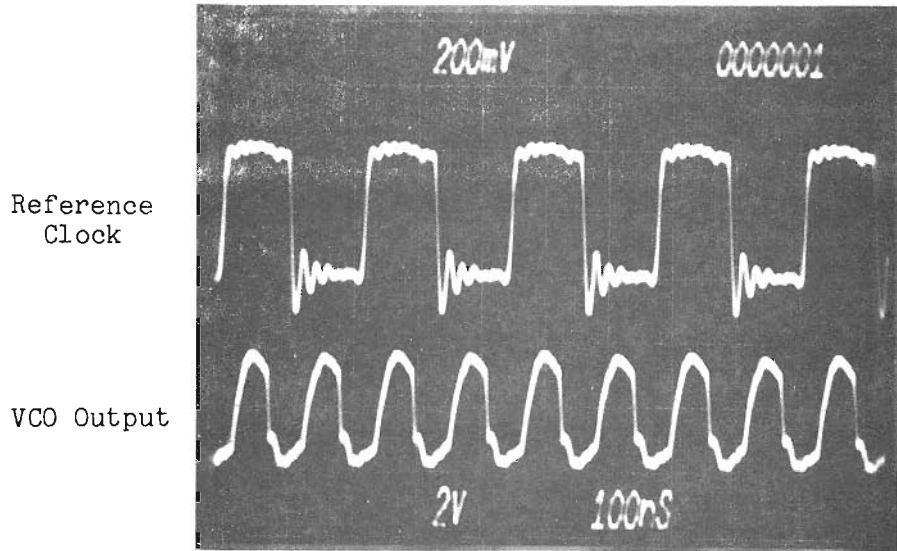
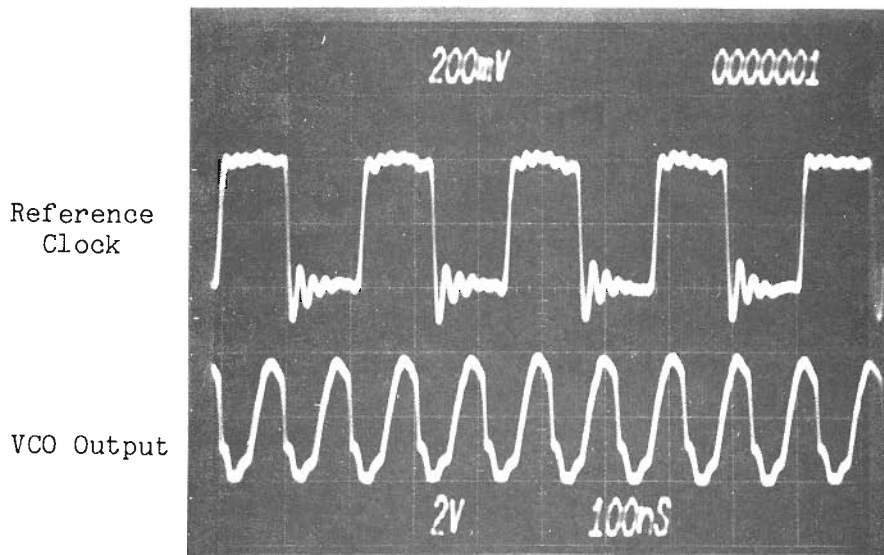

FIGURE 2 PLL CORRECTLY ADJUSTED FOR WINCHESTER DISK DRIVE
FIGURE 3 PLL INCORRECTLY ADJUSTED FOR WINCHESTER DISK DRIVE
10. Turn potentiometer R7 (Winchester drive adjustment) completely counterclockwise, and then slowly adjust R7 clockwise until the VCO output signal (Channel 2) is stable--not free running. Continue adjusting R7 until all the VCO output pulses are centered with respect to the phase detector reference clock pulses (ref: FIGURE 2). When this condition occurs, the PLL is said to be "locked". When the output pulses are centered, the signal will have a period of approximately 0.115 usec (ref: FIGURE 2). FIGURE 3 shows an incorrect VCO output signal. Note that the higher frequency of the VCO output in the figure results in an extra pulse (ten instead of nine) in the VCO output.